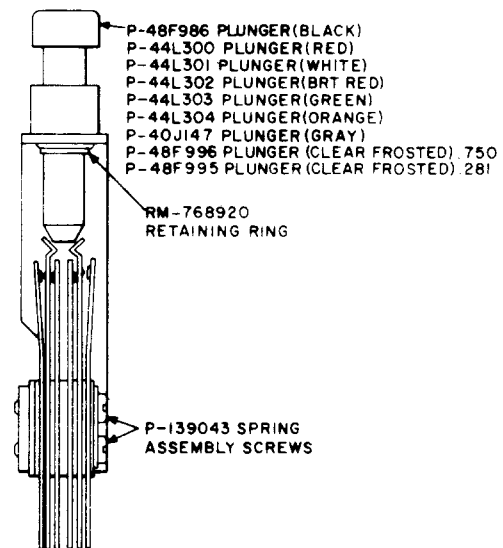

Fig. 1—547-Type Keys
2.01 Figures 1 through 47 show the various parts in relation with the key. The piece-part numbers are given with the names as listed by the Western Electric Merchandise Department. Where these names differ from those in general use in the field, the latter names, in some cases, are shown in parentheses.